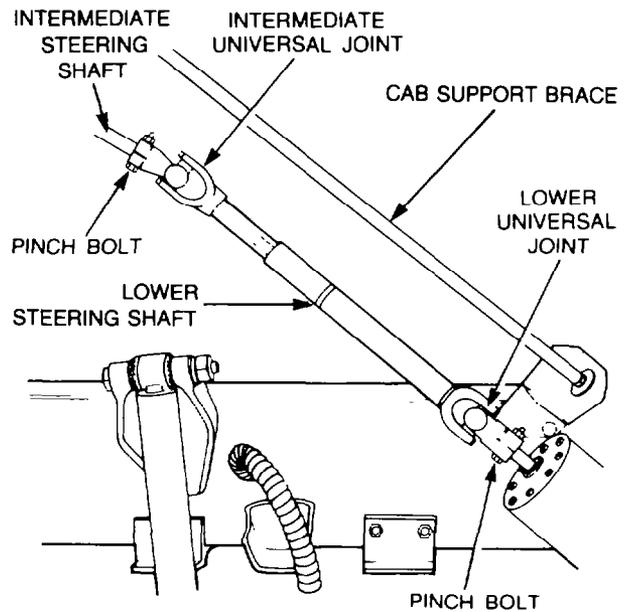

Figure 324 — Steering Shaft — Installation
- z. Slide the lower steering shaft universal joint yoke up onto the intermediate shaft and secure in position with the pinch bolt and nut (see Fig. 324).